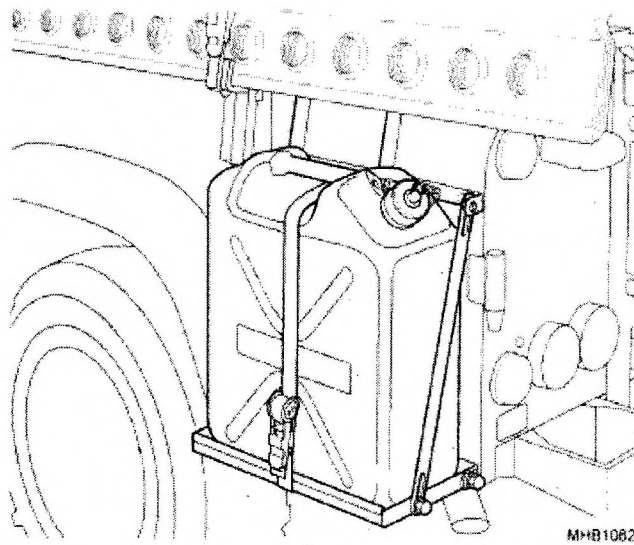

Fig 11 Jerry can stowage
- 8.10 There are folding supports for jerry can stowage (Fig 11).
14 There is provision for the stowage of 2 jerry cans. One mounted on each side of the vehicle (Fig 11) on jerry can stowage frames.